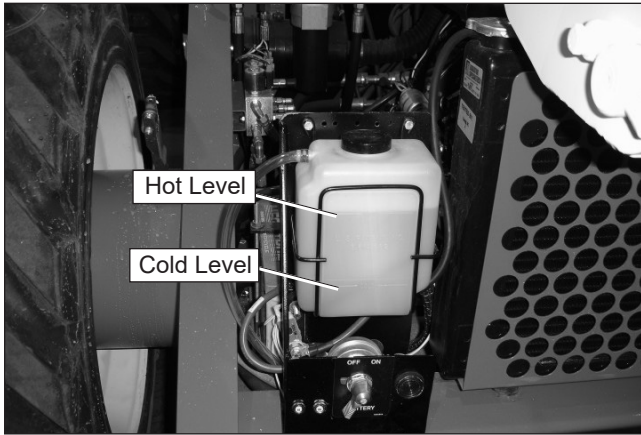

Figure 7.3 – Coolant Reservoir
- When the engine is cold, the coolant level should be between the Hot and Cold marks on the coolant reservoir (refer to Figure 7.3).